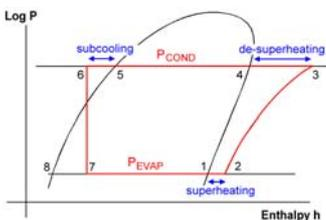

Figure 1: refrigerant cycle
Measurements: pressures (P), temperatures (T) and volumetric flow rate of refrigerant (q_v), compressor and electrical heaters power ($P_{OELCOMP}$, $P_{OELBEDROOMS}$, $P_{OELBATHROOM}$), ground, indoor and outdoor temperatures (T) (figures 1 and 2).